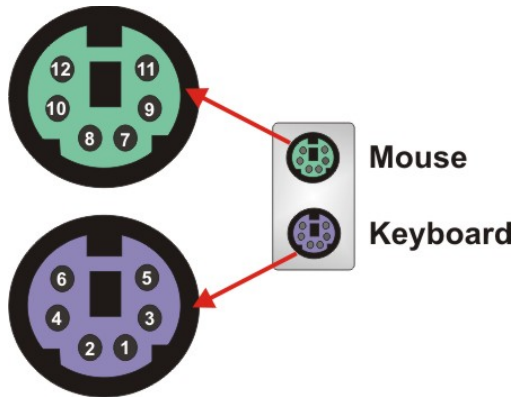

Figure 3-28: PS/2 Pinouts
- CN Pinouts:** See **Figure 3-28** and **Table 3-26**